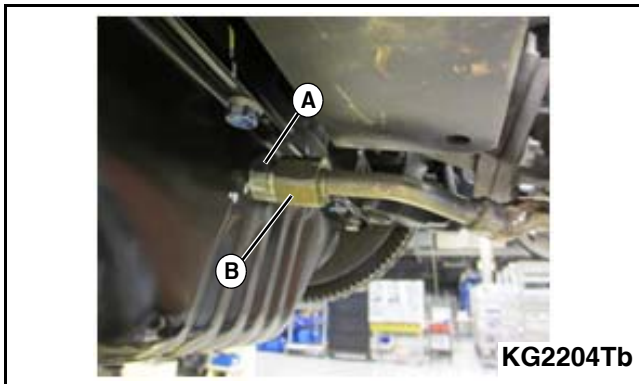

Figure 3-53
5. Connect the turbo oil drain line to the fitting in the oil pan. Apply a light coating of engine oil to the fitting thread. Thread the nut onto the fitting by hand. Use a wrench to hold the fitting (A) adjacent to the oil pan in place while tightening the nut (B) onto the fitting to $62 \pm 3 \text{ N}\cdot\text{m}$ ($46 \pm 2 \text{ ft}\cdot\text{lb.}$). **See Figure 3-53.**